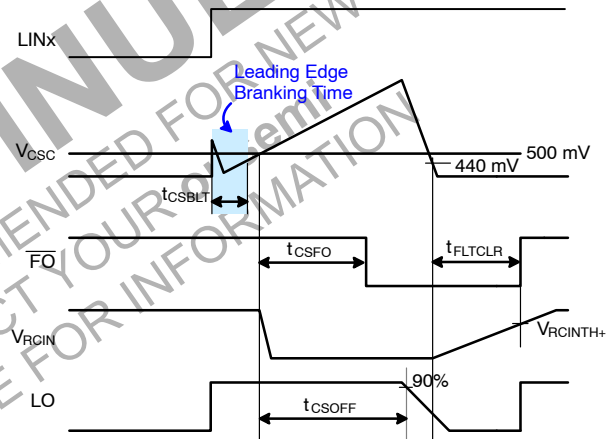

Figure 43. R_{CIN} and Fault-Clear Waveform Definition
Figure 43 shows the waveform definitions of RCIN, $\overline{FO}$, and the low-side driver; which uses a soft turn-off method when an under-voltage condition of the low-side gate driver supply voltage (V_{DD}) or the current-sense pin (CS) recognizes a fault. If a fault condition occurs, the $\overline{FO}$ Pin is internally pulled to COM and all outputs (HO1, 2, 3 and LO1, 2, 3) of the gate driver are turned off. Low-side outputs decline linearly by the internal sink current source ($I_{SOFT} = 40 \text{ mA}$) for soft turn-off, as shown in Figure 43.